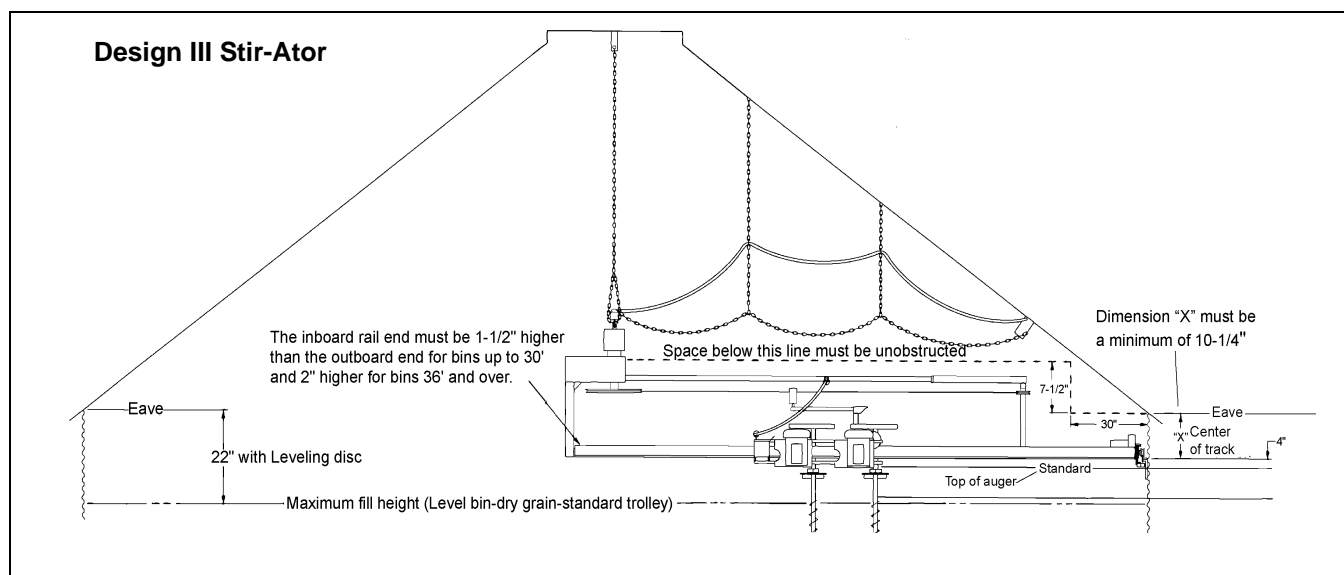

Figure 4I
1. Remove bags of hardware from the switch box. Install safety switch shut off, switch box and box brace to bin roof above the manhole opening. See Figure 4I for recommended mounting height and then drill the hole in the roof.
3. Fasten shut off support chain(s) to bin roof using existing roof bolts and a 5/16" flat washer and hex nut. Three (3) support chains should be equally spaced between the switch box and the center of the bin.